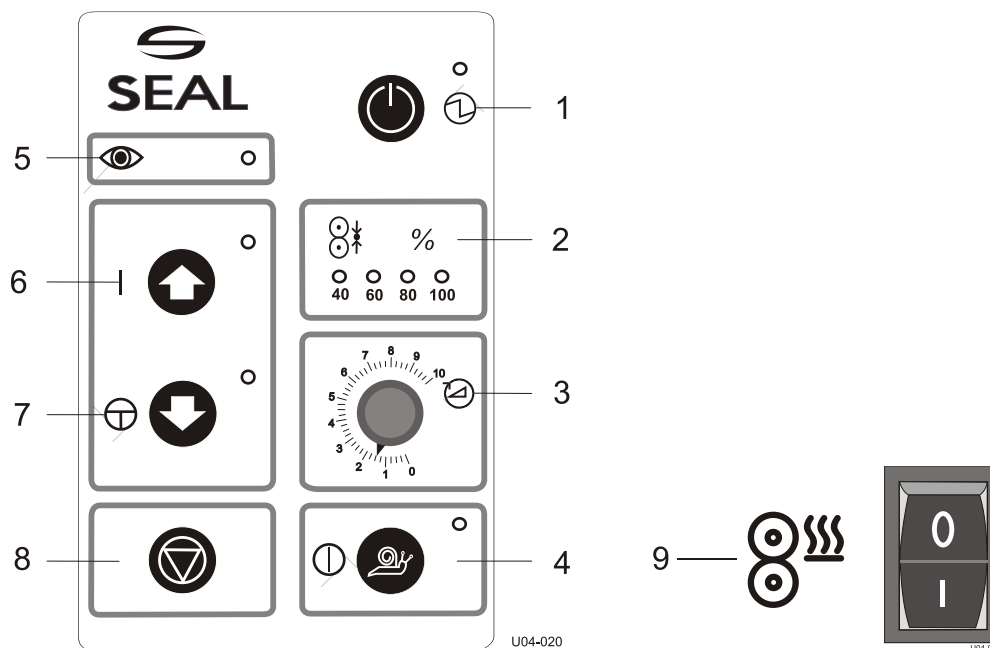

Figure 8: Control panel
This section gives an overview of the functions of the controls on the control panel (7) and elsewhere on the machine (Figure 8).